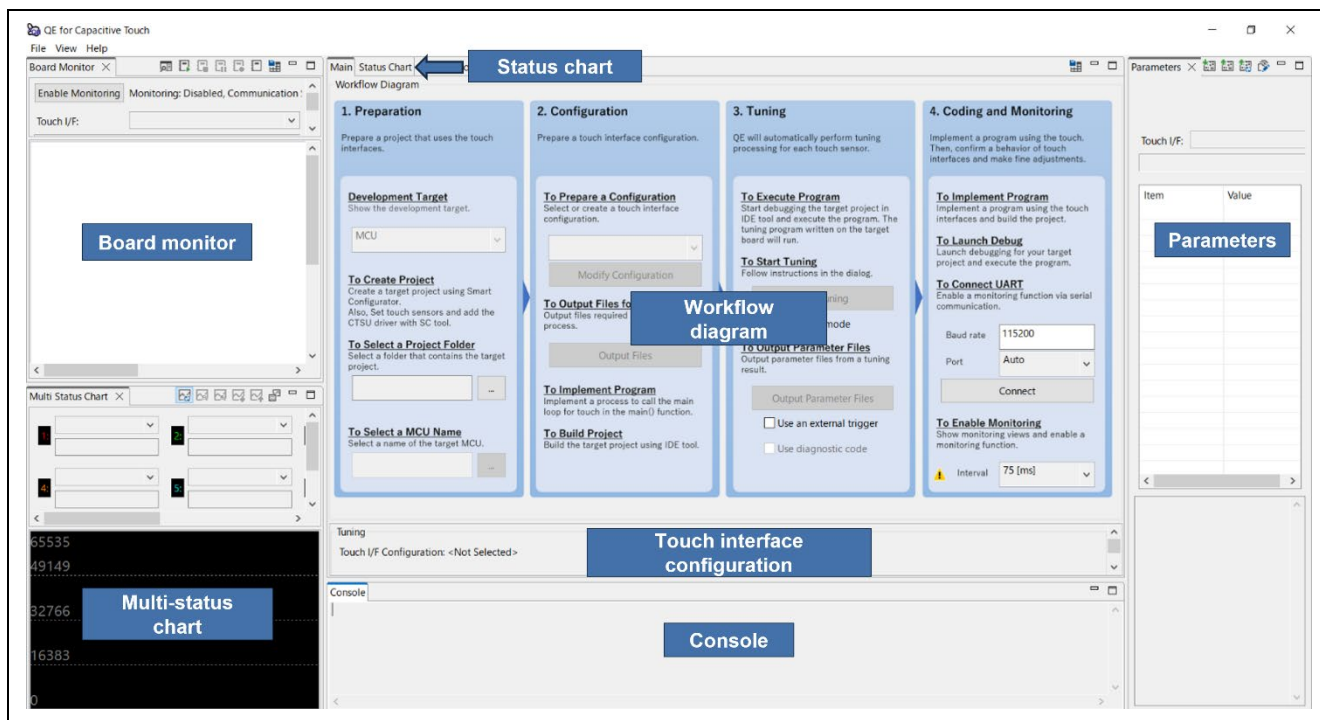

Figure 8-1 QE Window after Startup
2. Figure 8-1 shows the window after the QE has started.